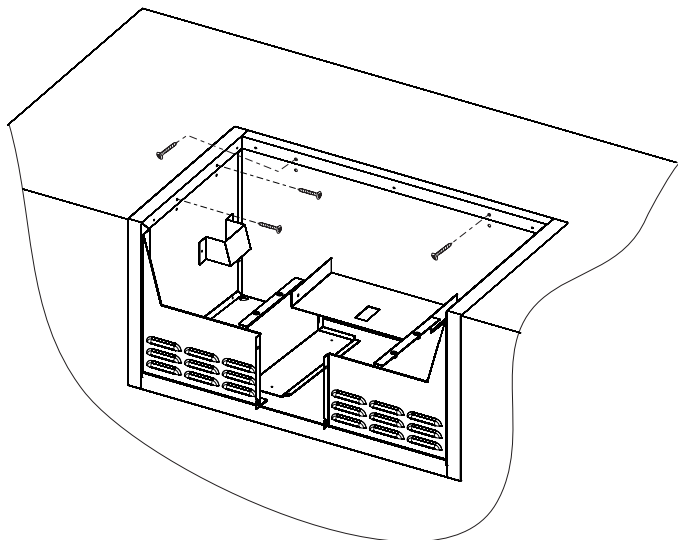

Figure 2
2. Secure the BHAX2 surround to the enclosure using six #10 x 1" self-drilling screws. See Figure 2.